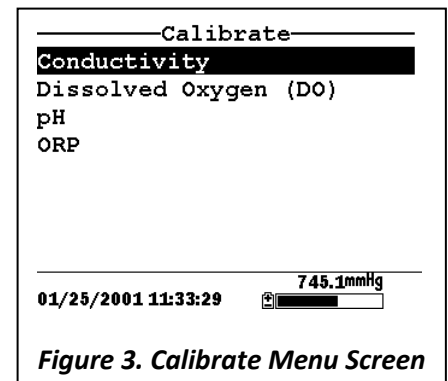

Figure 3. Calibrate Menu Screen
3. Use the arrow keys to highlight **Calibrate** (figure 3).